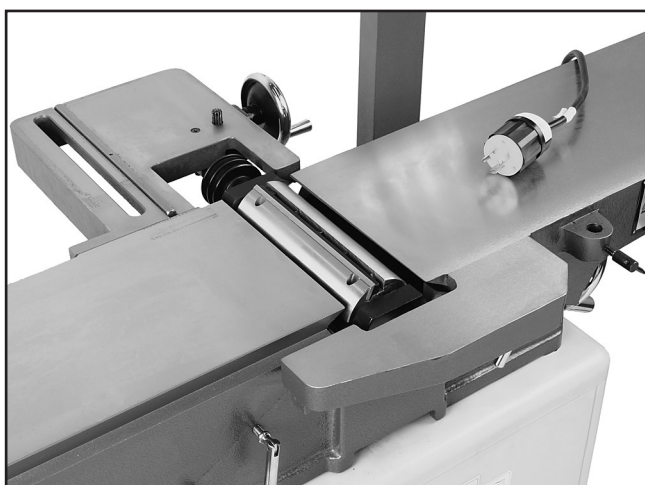

Figure 3. Example of jointer disassembly **Steps 1-4**.
4. Lower both beds to make enough room for the cutterhead to come out, as shown in **Figure 3**.